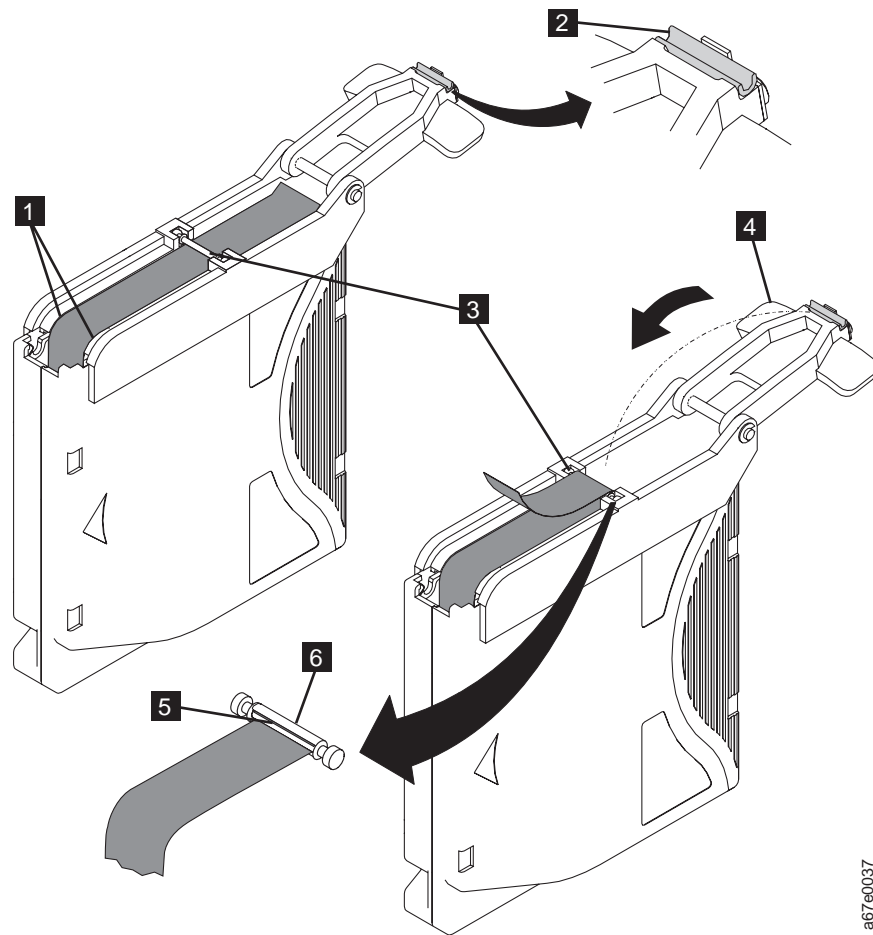

Figure 127. Attaching the leader pin to the tape
7. Position the tape in the alignment groove of the leader pin attach tool (see **1** in Figure 127 on page 123).
8. Place a new C-clip into the retention groove **2** (Figure 127 on page 123) on the leader pin attachment tool and make sure that the clip's open side faces up.
9. Place the leader pin (from step 6) into the cavity **3** (Figure 127 on page 123) of the leader pin attach tool.
10. Fold the tape over the leader pin and hold it with your fingers (see Figure 127 on page 123).